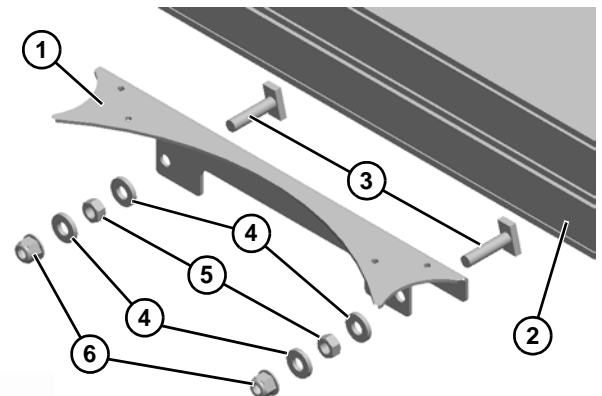

Figure 23
1. Install conveyor tie plate (Figure 23, item 1) to straight conveyor section (Figure 23, item 2) with two M8 x 35 mm studs (Figure 23, item 3), washers (Figure 23, item 4), and hex nuts (Figure 23, item 5).
2. Thread on hex nuts (Figure 23, item 6) a couple turns at this time.